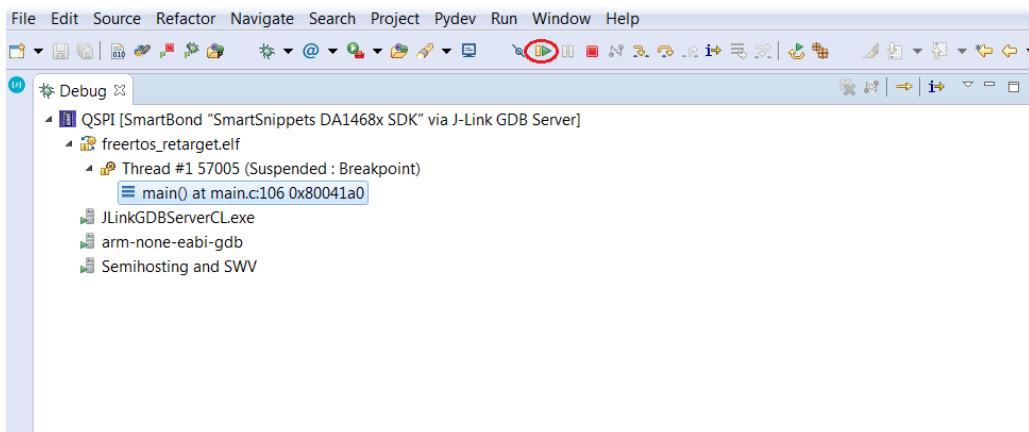

Figure 41: Executing the **Blinky project in Eclipse**
2. Start execution of the **Blinky** project by selecting **Resume** inside the Eclipse Run menu or by hitting the **play** icon as indicated in Figure 41.